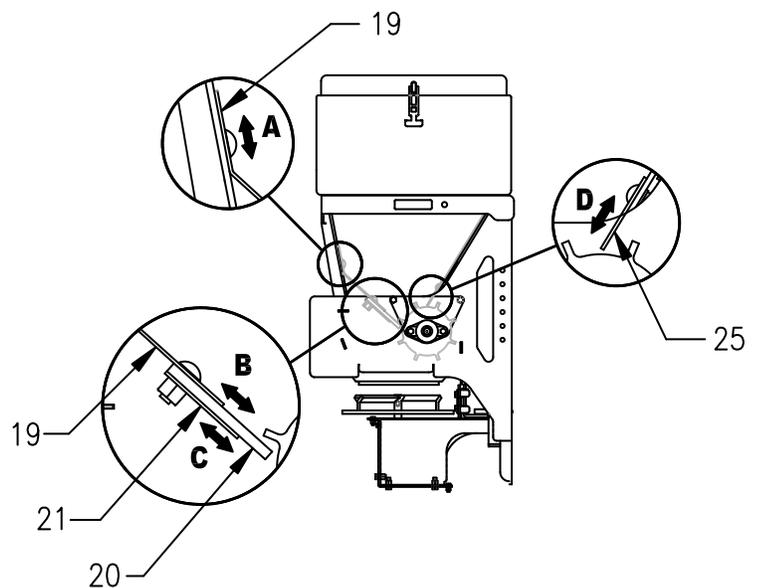

Figure 20. Vibration Tray Adjustment G10609
2. To increase the vibration of Tailgate Spreader TGS800, Vibration Tray (19) (part A Figure 20), or Back Flap (25) (part D Figure 20) can be adjusted down in the slotted holes.
3. To decrease the vibration of Tailgate Spreader TGS800, Vibration Tray (19) (part A Figure 20), or Back Flap (25) (part D Figure 20) can be adjusted up in the slotted holes.
2. Rubber Flap (20) can be moved down in slotted holes of Vibration Tray (19) to compensate for normal wear. Backing Plate (21) should remain a minimum of 1-1/4" from bottom end of Rubber Flap (20), refer to part B and C, Figure 20.